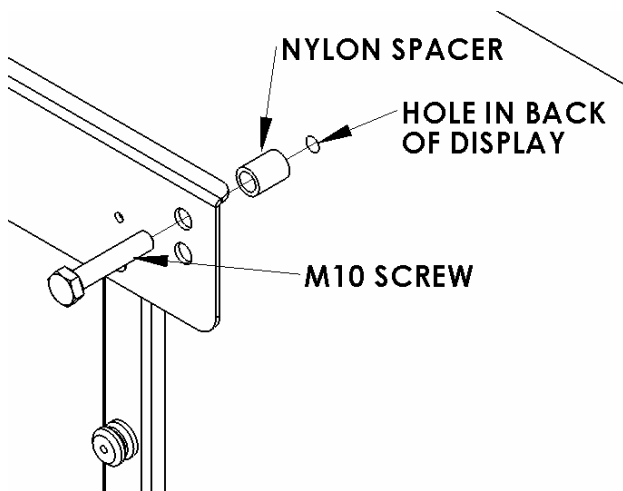
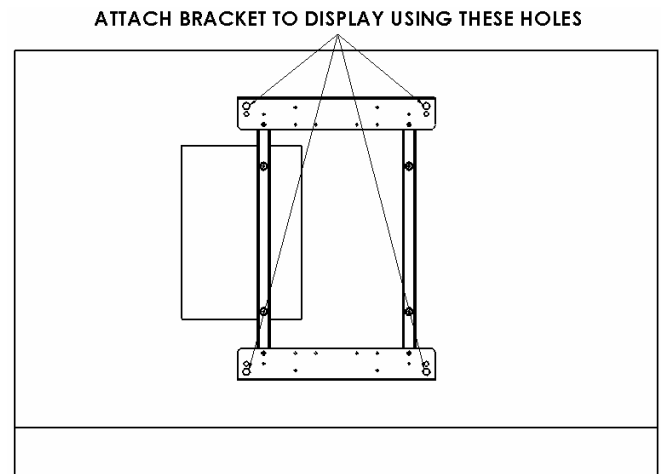

Figure 6
Figure 7
- Place Nylon spacers over mounting holes on back of screen. Attach mounting brackets to display using M10 screws (see Figures 6 & Figure 7). Use the nylon spacer that works best for your screen.